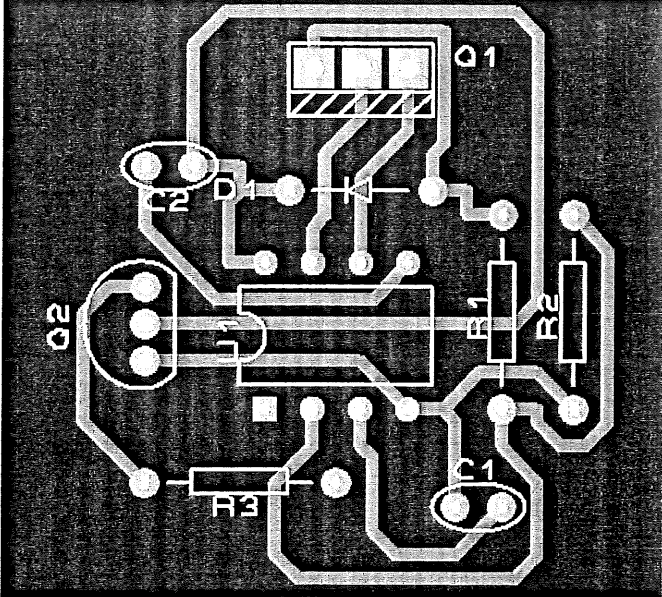

Figure 2
- d) By referring to the PCB diagram given in Figure 2, construct the schematic circuit according to the PCB diagram connection. (10 marks)